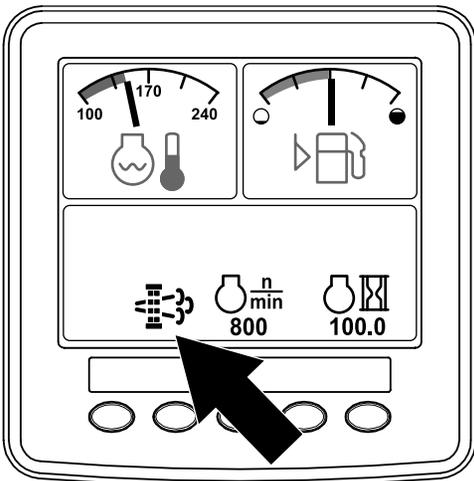

Figure 16
- When the engine computer requests either a parked regeneration or a recovery regeneration, the regeneration request icon (Figure 16) displays in the InfoCenter.